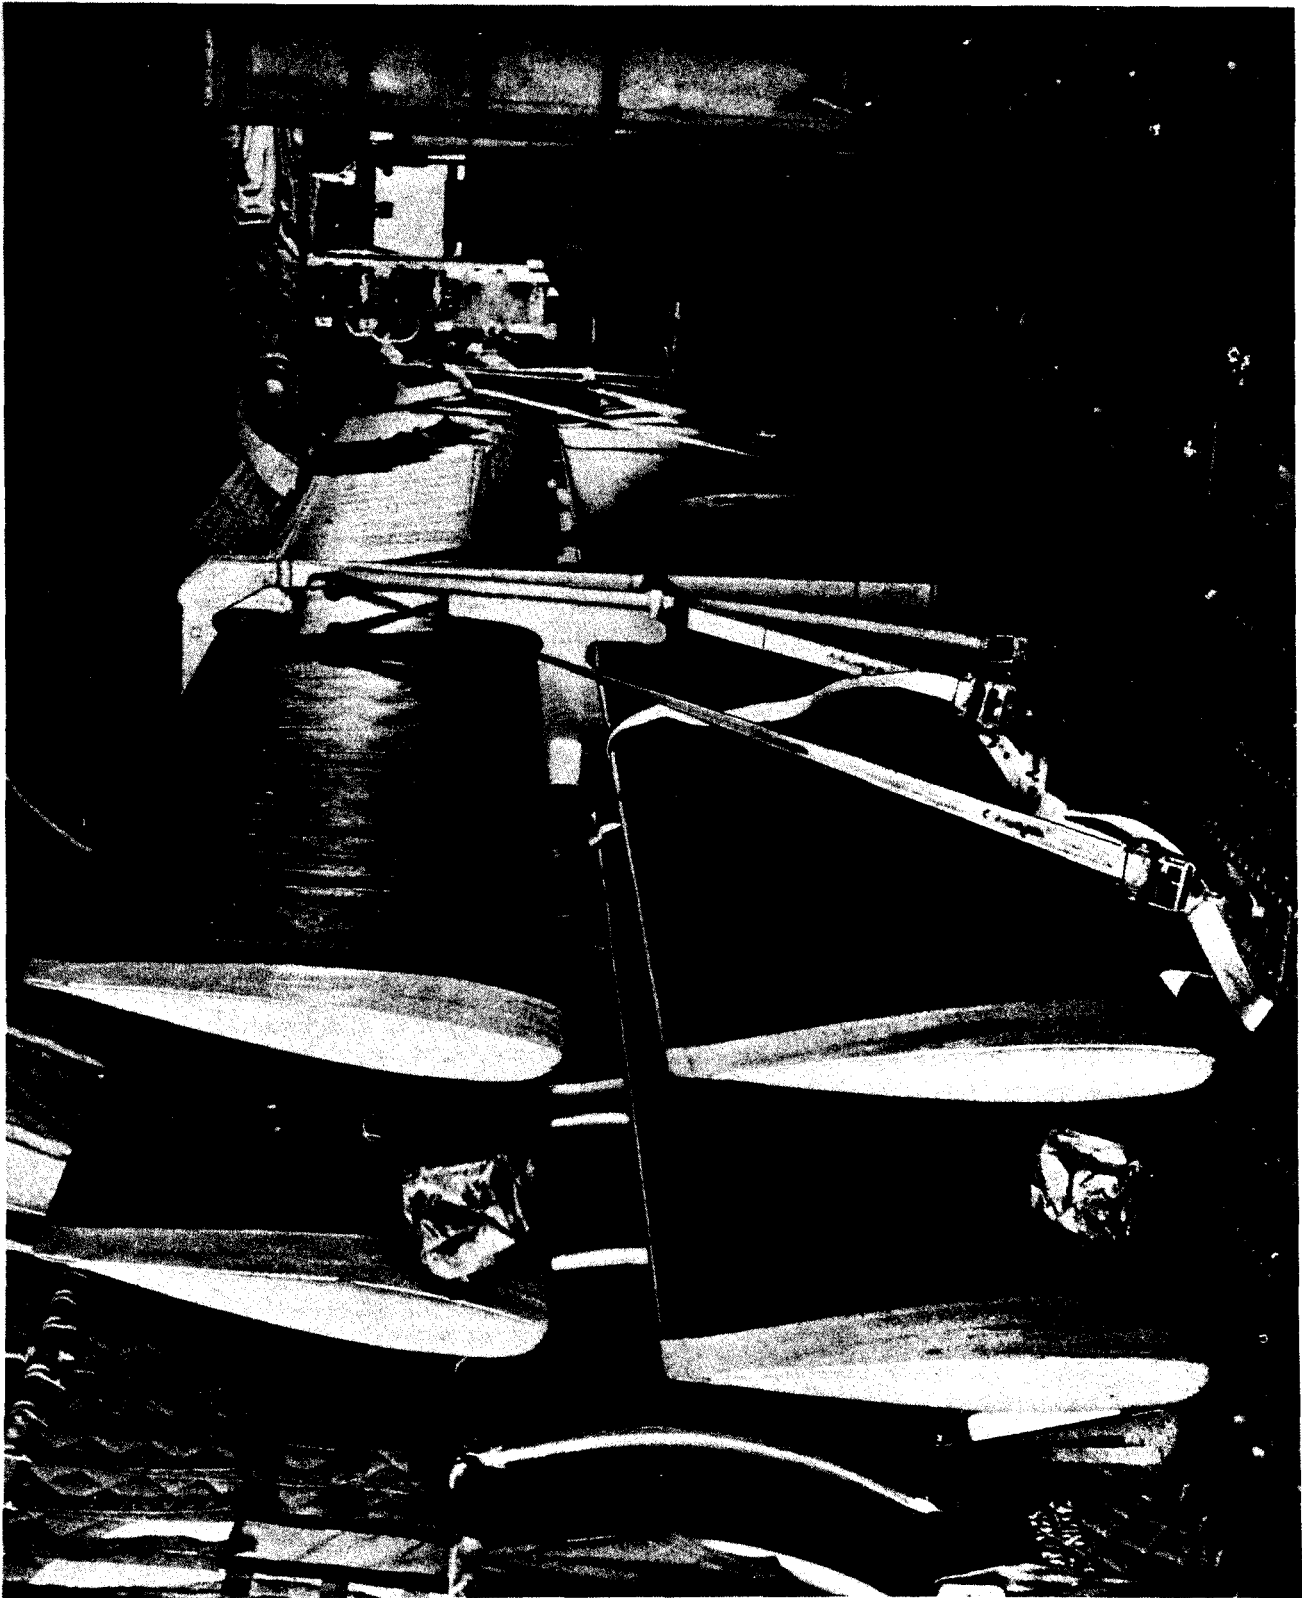

Figure 7-1. Rotor Blade Transport Stand
- i. Stow blades in rotor-blade transport stand (P/N 145 G0028-1, NSN 8145-01-115-7018) secured to left side of helicopter cargo compartment at stations 200 and 400 (figure 7-1).
- (1) Wrap blade surfaces which contact rack saddles with barrier material (C-4) prior to securing blades in stand.
- (2) Alternate blades when placing them in transit stand. Ensure that entire blade socket (approximately 19 inches long) is forward of adjacent blade tip to prevent damage to blade tips.